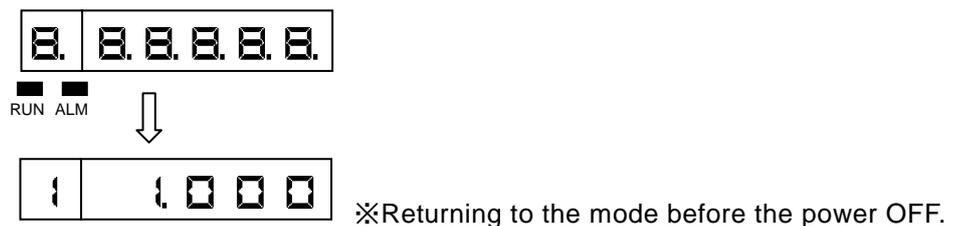

Fig. 6.1 Display Screen at Power-on
- (1) Display screen :The "RUN" lamp keeps the condition of before power-off.
- (2) Printout data :All printing data and analog recording data of before power-off are cleared.
- (3) Alarm and Diagnosis :Alarm indications and outputs of before power-off are not recovered.
- (4) Data display and Channel number are displayed refer to Fig.6.1.
- ① When electric power failure occurs, the initialization is performed after power recovery. And it becomes the above initial state.
- ② The printout data are eliminated in initialization. Printout operation is not continued after power recovery when the power is turned off during printout.
- ③ When the power is turned on, the display displays "0" while reading data in fig.6.1. The numeral of the display digit depends on the setting.